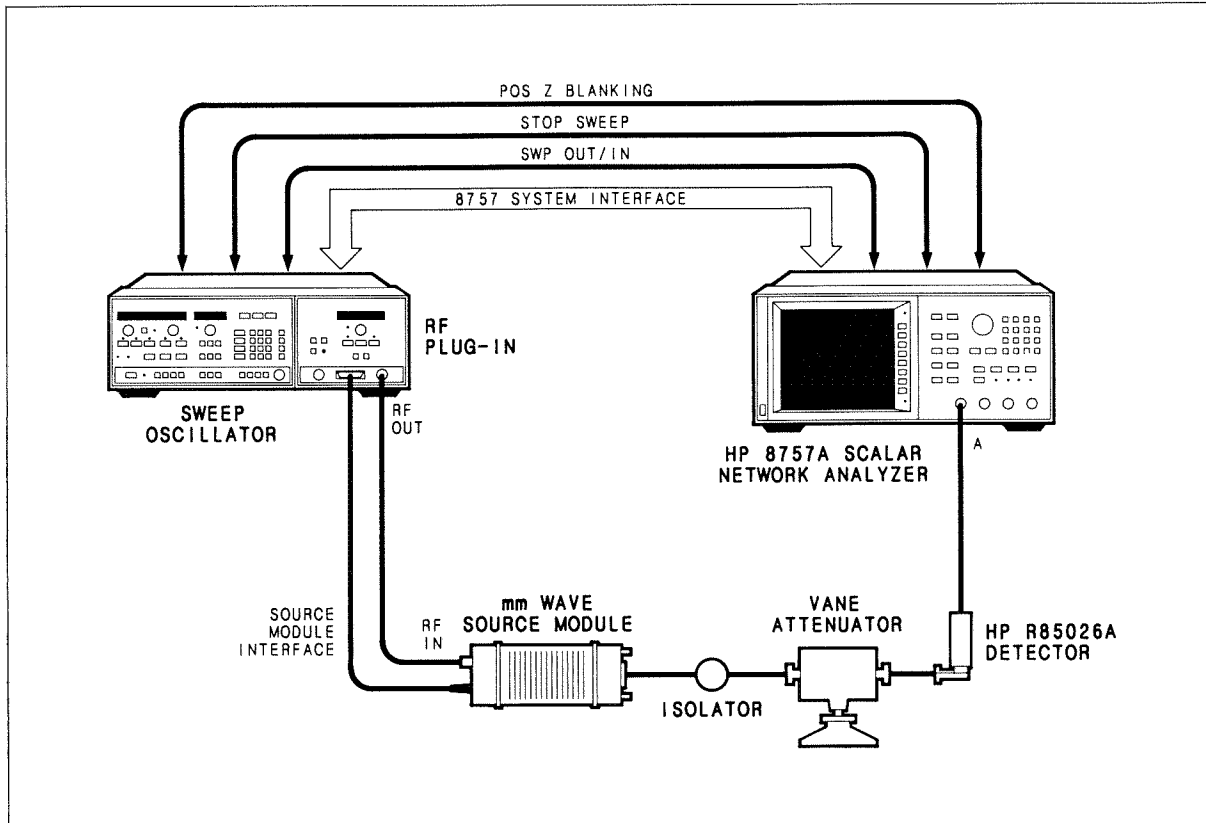

Figure 2-3. Equipment Setup for Operator's Check
1. Connect the equipment as shown in Figure 2-3. Allow 30 minutes for warm-up.